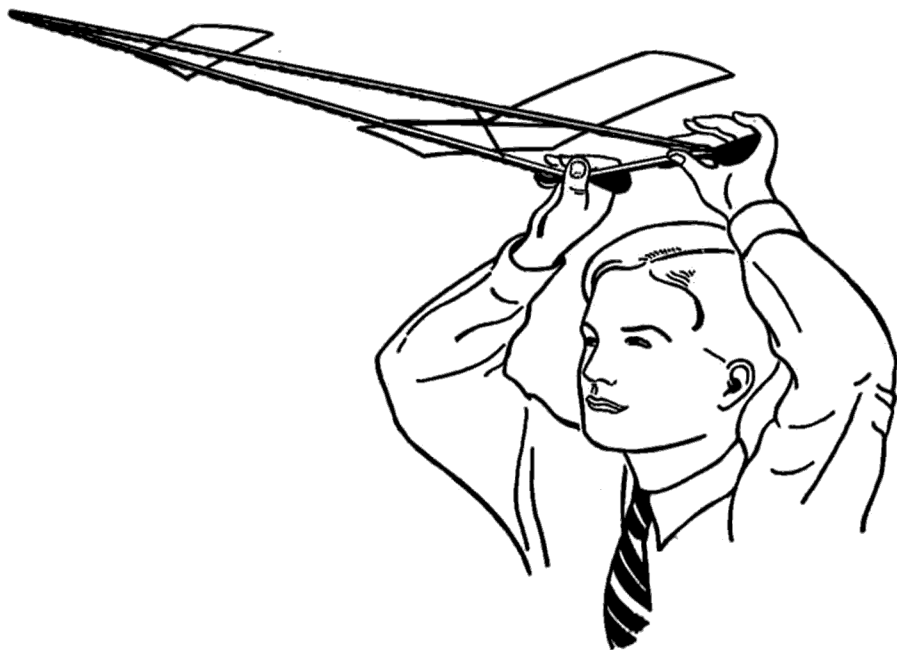

FIGURE 93. CORRECT LAUNCHING OF ENDURANCE TWIN-PUSHER
*CORRECT LAUNCHING OF ENDURANCE TWIN PUSHERS.* In Fig. 93 is shown the most common position used for launching a twin-stick pusher. The thumb and index finger of each hand grasp the beams of the A-frame just in front of the propellers which rest in the palms of the hands, as shown. This keeps the propellers from moving, and allows the launcher to release his model by simply opening his fingers. The model is held with its nose slightly raised and the propellers parallel with the ground.